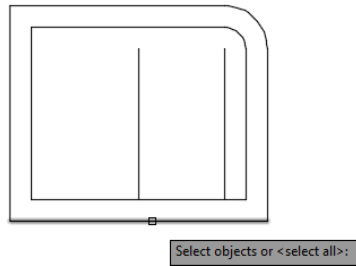

FIGURE 2.30: Selecting a line to be a boundary edge
- Pick the very bottom horizontal line (see Figure 2.30) and then press ↵.